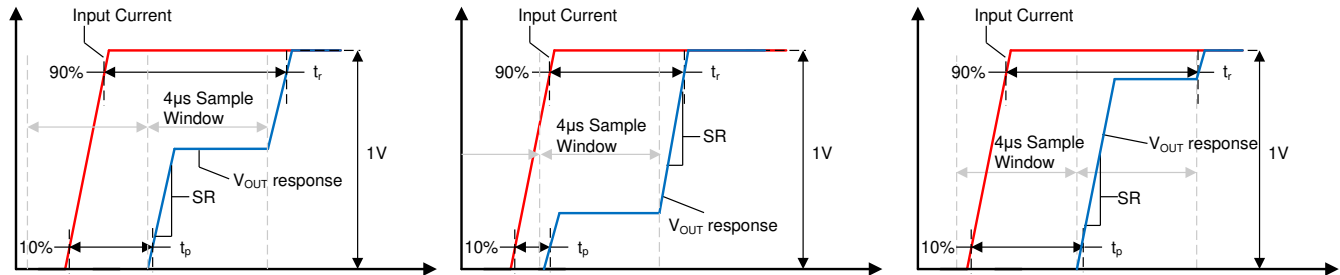

Figure 7-3. Small Current Input Step Transient Response
Slew rate (SR) is defined as the V_{OUT} rate of change for a single integration step output transition, as shown in Figure 7-3. Because the device often requires two sampling windows to reach a full 90% settling of the final value, this slew rate is not equal to the 10%-90% transition time for the full output swing.
Propagation delay is the time period between the input current waveform reaching 10% of the final value and V_{OUT} reaching 10% of the final value. This propagation delay is heavily dependent upon the alignment of the input current step and the sampling period of the TMCS1100, as shown for several different sampling window cases in Figure 7-3.
Response time is the time period between the input current reaching 90% of the final value and the output reaching 90% of the final value, for an input current step sufficient to cause a 1V transition on the output. Figure 7-3 shows the response time of the TMCS1100 under three different time cases. Unless a step input occurs directly during the beginning of one sampling window the response time includes two sampling intervals.